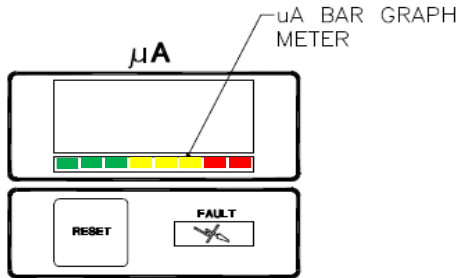

Figure 16:  $\mu$ A Bar Graph Meter Display
The kV setpoint is displayed on the kV display, the actual current draw on the  $\mu\text{A}$  display, and the high voltage light illuminates. Under the  $\mu\text{A}$  display is a bar graph meter that illuminates according to the actual current draw shown in Figure 16. The green and yellow regions of the bar graphs meter indicate output current is in
Controller shown in Figure 16. Single pushes of the + or - buttons will increment or decrement the currently selected preset in units of 1. When the + or - buttons are held in for longer than a 1/2 second, the kV display will begin incrementing or decrementing in units of five (5).